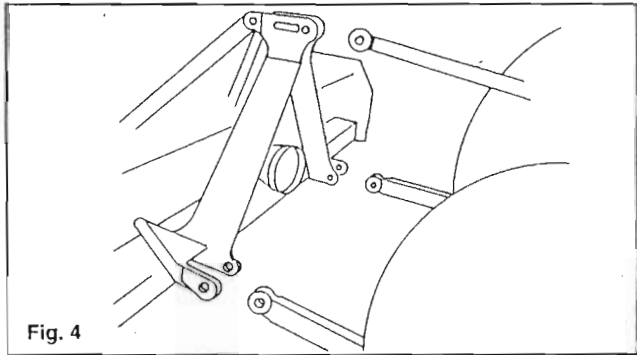
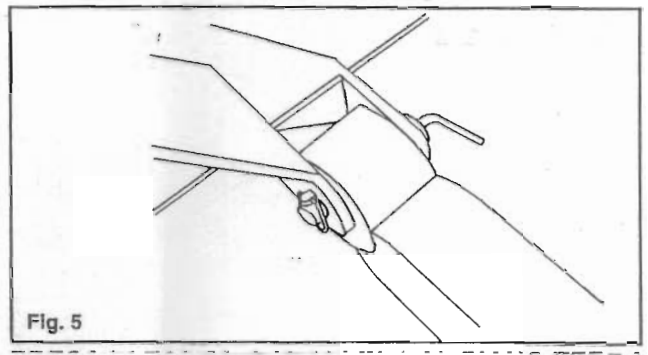

Fig. 4
Fig. 5
- 7. ALWAYS MOUNT THE THREE POINT LINKAGE CORRECTLY (FIG 4 & FIG 5).**